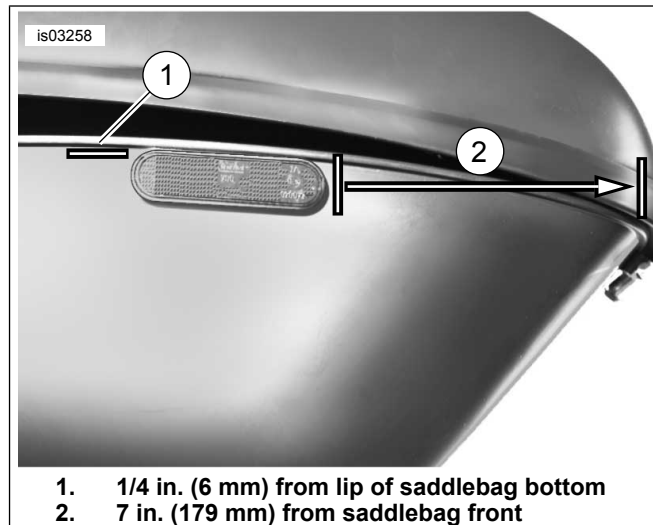

Figure 16. Install Reflector on Saddlebag
- See Figure 16. Position reflector approximately 7 in. (179 mm) from saddlebag front and 1/4 in. (6 mm) from lip of saddlebag bottom.